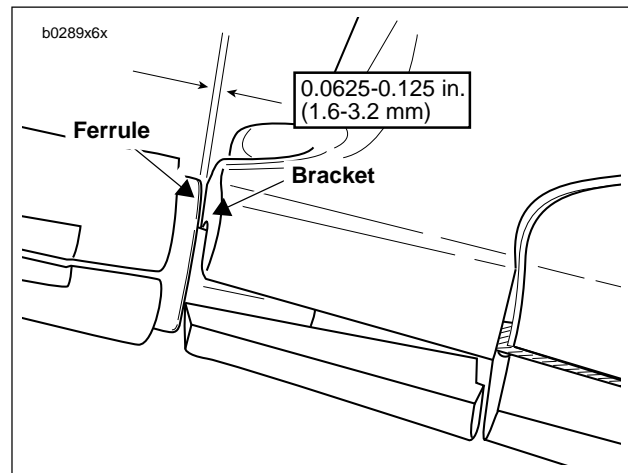

Figure 1-21. Adjusting Clutch Freeplay
4. Remove spring (4) and lockplate (5). Turn adjusting screw (6) counterclockwise until it lightly bottoms.
5. Turn adjusting screw (6) clockwise 1/4 turn. Install lockplate (5) and spring (4) on adjusting screw flats. If hex on lockplate does not align with recess in outer ramp, rotate adjusting screw clockwise until it aligns.
- a. See Figure 1-21. Pull ferrule (1) (end of cable housing) away from bracket (2). Gap between ferrule and bracket should be $1/16$ - $1/8$ in. (1.6-3.2 mm).